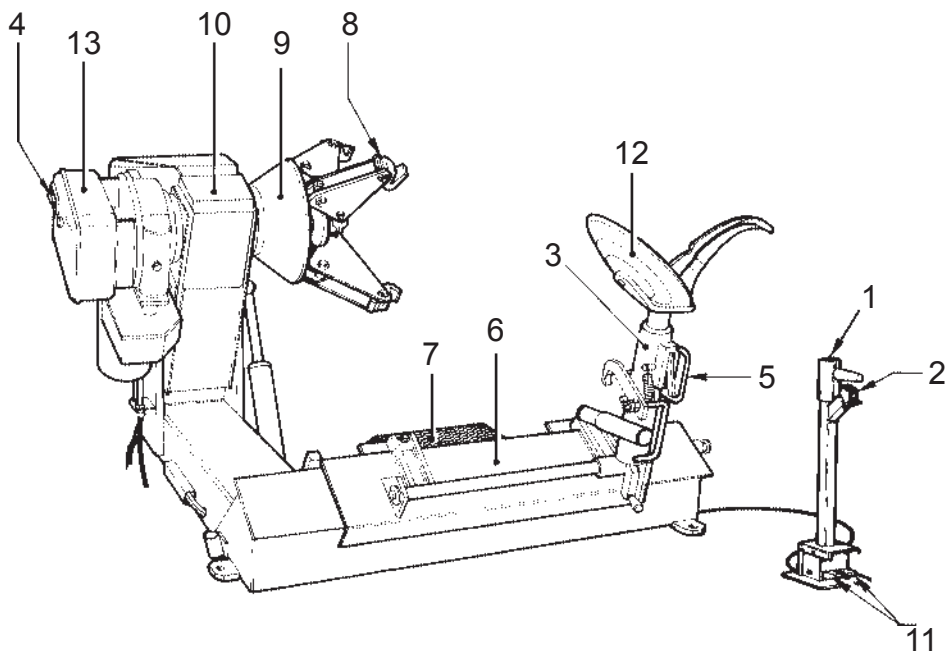

Fig.1
Before installing and using the **ACCU model 4260** you should become familiar with the proper nomenclature of it's components (Fig.1).
A. To turn the machine on, rotate the ON/OFF switch (#4 Fig.1) to position "1": the pump motor starts turning and remains in operation until which time the machine is turned off. The power required is minimum when the hydraulic cylinders are not in use.
B. Press chuck rotation pedal (#11 Fig.1) identified by a black arrow: the chuck turns clockwise. Press the opposite pedal to turn the chuck counter clockwise.
Move the footboard (#7 Fig.1) and the tool holder carriage (#6 Fig.1) all the way out. Put the wheel in vertically and roll it on the footboard. Be sure to use alloy adapters when applicable.